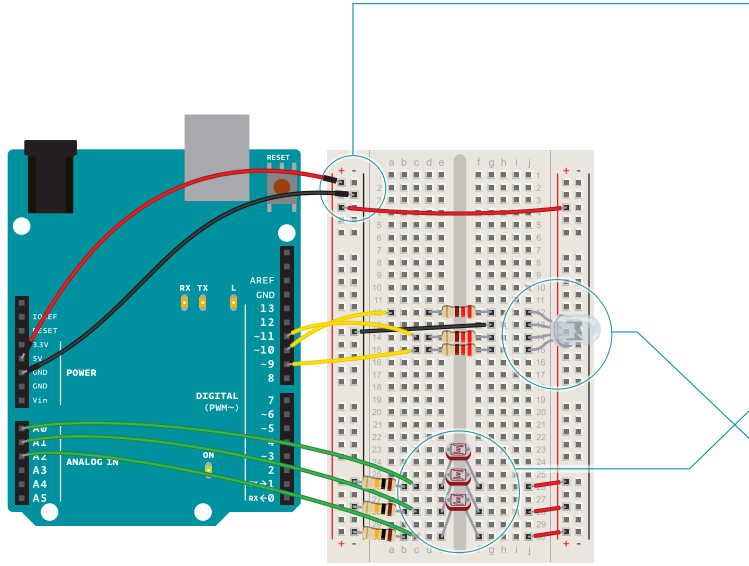

Fig. 1
- 2 Place the three photoresistors on the breadboard so they cross the center divide from one side to the other, as shown in Fig. 1. Attach one end of each photoresistor to power. On the other side, attach a 10-kilohm resistor to ground. This resistor is in series with the photoresistor, and together they form a voltage divider. The voltage at the point where they meet is proportional to the ratio of their resistances, according to Ohm's Law (see Project 1 for more on Ohm's Law). As the resistance of the photoresistor changes when light hits it, the voltage at this junction changes as well. On the same side as the resistor, connect the photoresistors to Analog In pins 0, 1, and 2 with hookup wire.